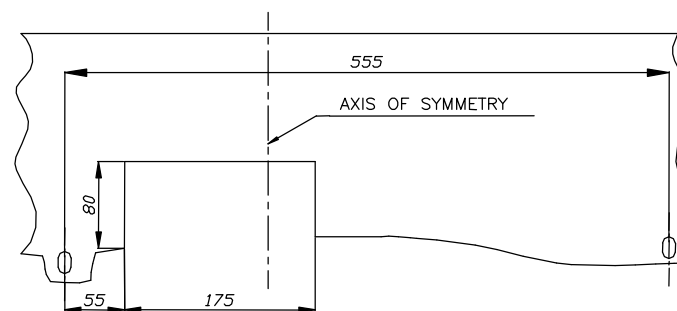

Fig. 2
4. Apply the main bar of the towbar (pos. 1) on the protruding bolt M10 in place of unscrewing reinforcement and fix it loosely.
5. Apply brackets of the towbar (pos. 4 and 5) to chassis into such way so holes (pos. A and B) be covered with holes in the back piece and with holes in the chassis member.
- holes (pos. A) fix with the main bar of the towbar (pos. 1) using bolts M10x40mm (pos. 9),
- holes (pos. B) fix to the chassis member using bolts M10x40mm (pos. 9) – use jibs with the nuts (pos. 6 and 7), which one ought to put through holes in chassis members.
7. Install the bumper after cut out of its fragment (see fig. 2).